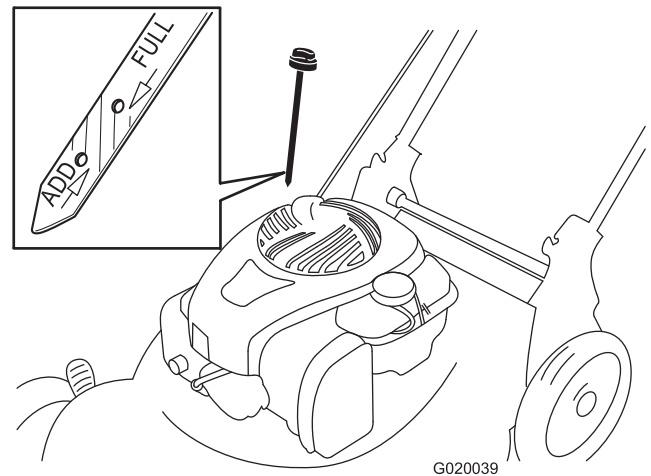

Figure 19
7. Remove the dipstick and read the oil level on the dipstick (Figure 19).